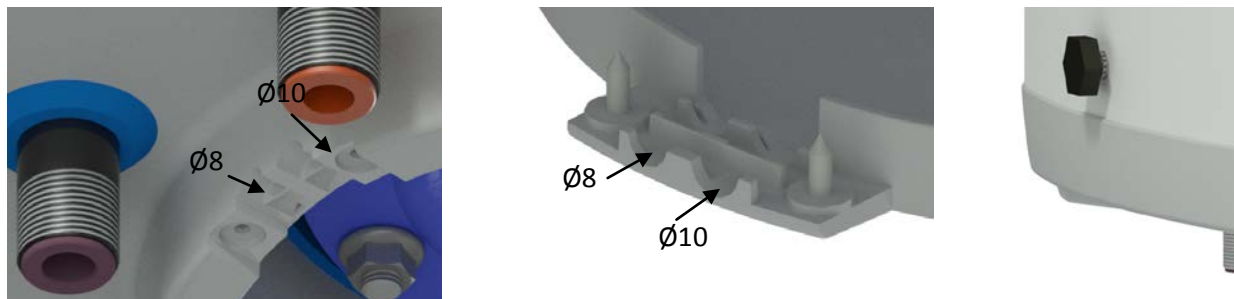
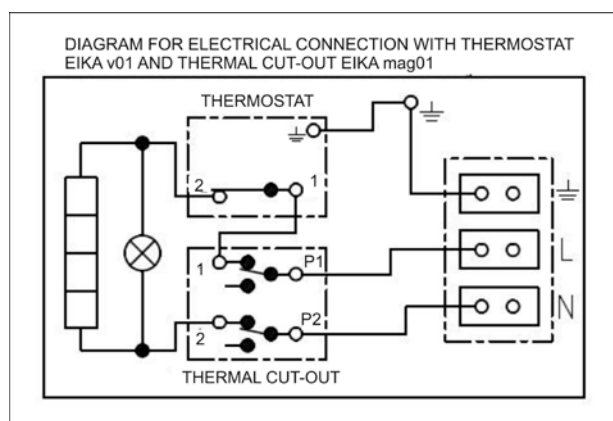

Figure 11
Figure 12
Perform the connection according to the scheme. Factory connection must not be changed! (Figure 12). In the electric wiring casing remove the partition corresponding with the input wire diameter of $\phi 8$ or $\phi 10$ (Figure 11). The degree of protection of electric parts of the heater is IP 44. Power input of electric element is 2200 W.
- The wiring diagram is attached to the heater on the electrical installation guard (see Figure 12).